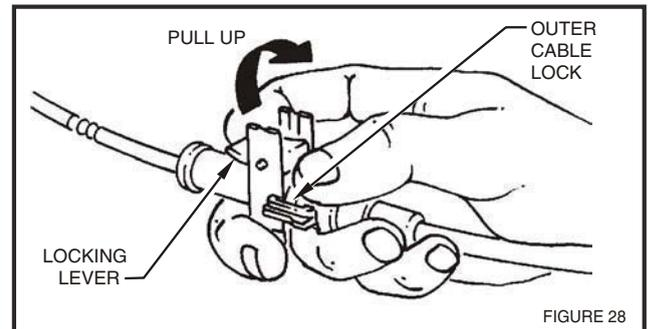

FIGURE 28
64. Unlock cable adjustment locking lever, refer fig. 28.